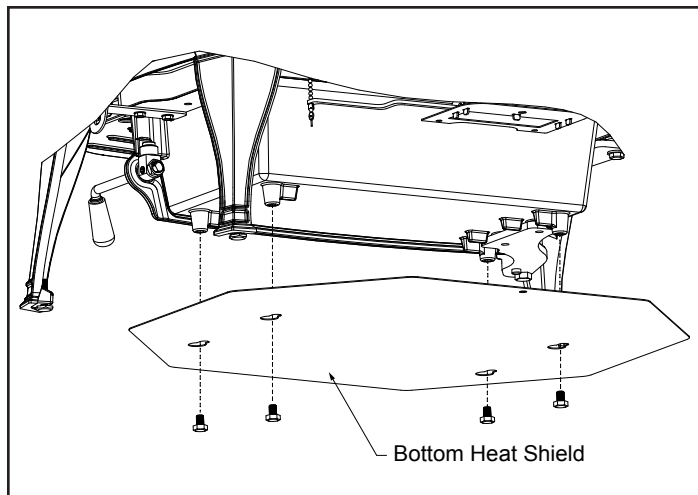

Figure 5.3 - Attach the bottom heat shield.
2. Pass all four bolts through the large end of the keyholes and then pulling the shield forward to engage the smaller ends of the keyhole slots. (Figure 5.3)